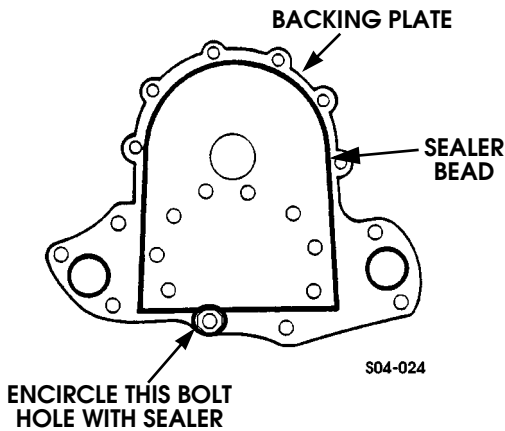

Figure 4-29: Backing Plate Sealer Application
3. Apply 1/8 - 3/16 in. (3.3-5 mm) wide bead of sealer to backing plate (Figure 4-29). Encircle bolt hole at bottom of plate with sealer as shown. Also apply sealer to threads of bolt or stud used in this hole to avoid leaks.